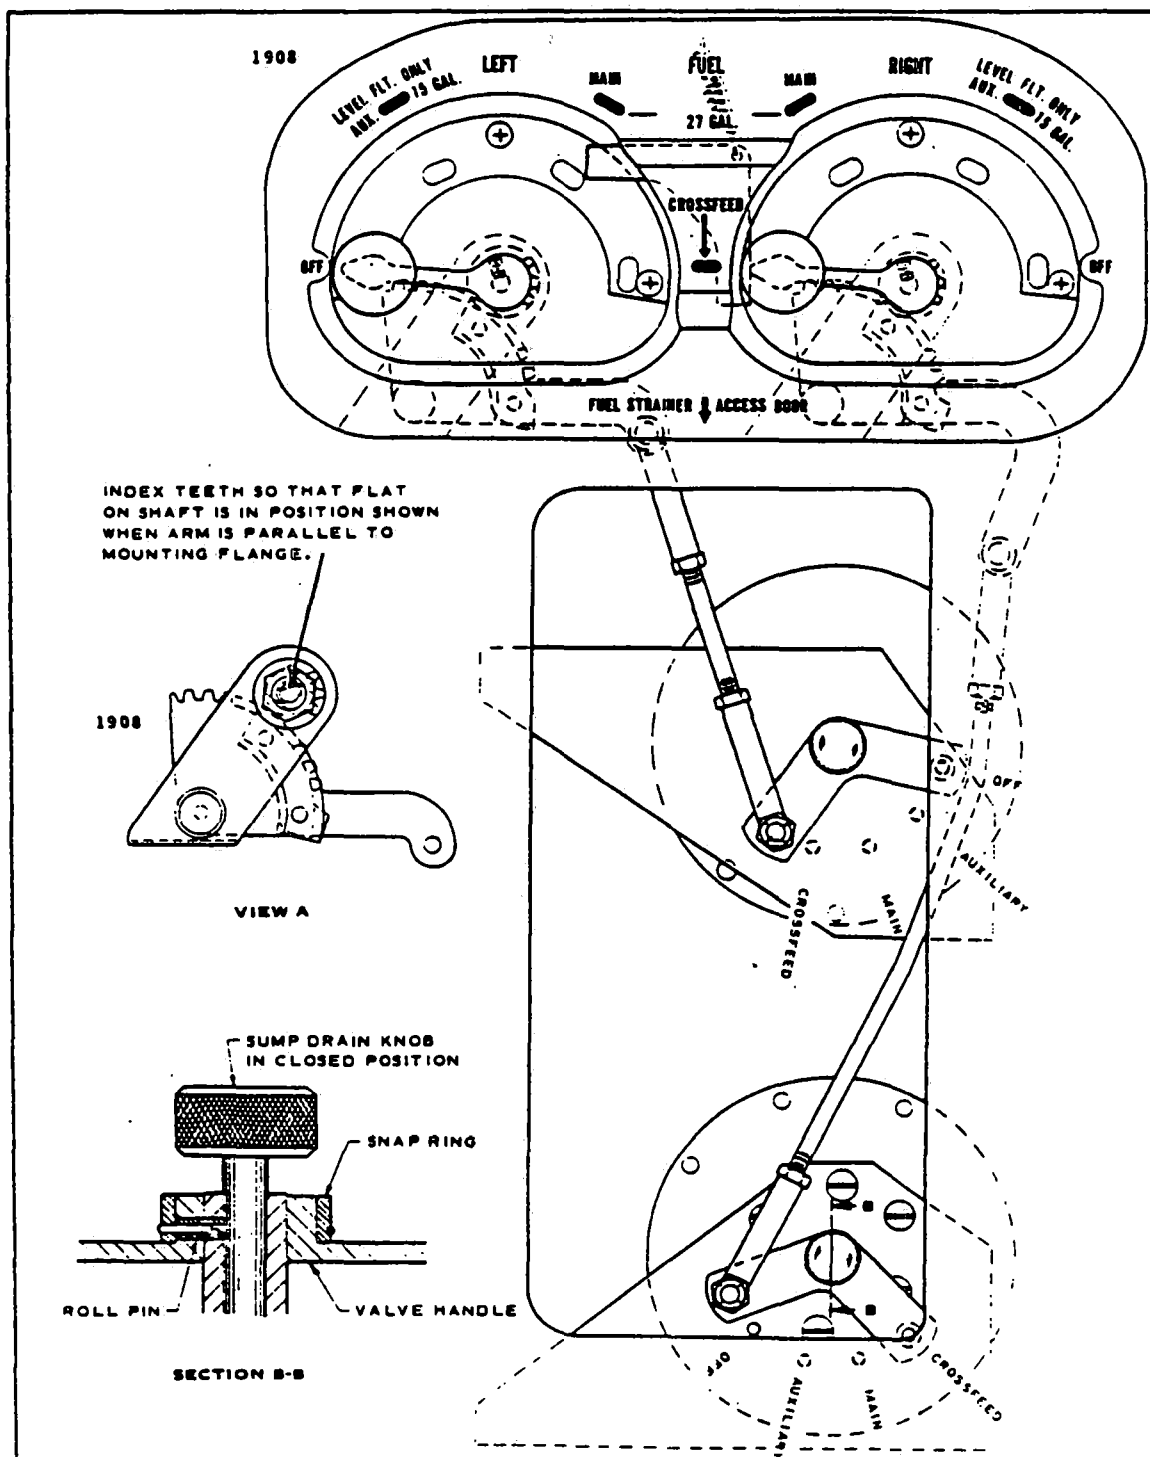

Figure 9-12. Fuel Selector Valve Control Installation
(Refer to Figure 9-12.)
**9-22. ADJUSTMENT OF FUEL SELECTOR VALVES. (Refer to Figure 9-12.)**
- i. Install the fuel selector valve control assemblies and secure with screws, washers and nuts. (Refer to Figure 9-12.)